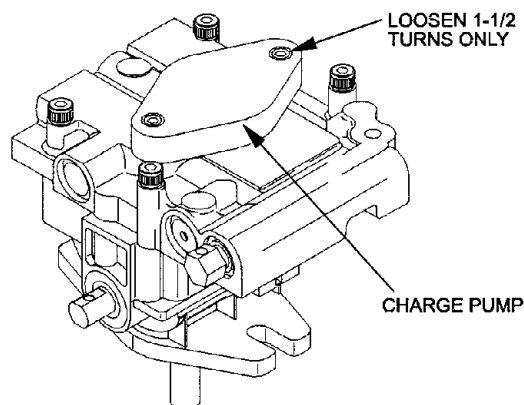

FIG. 10 CHARGE PUMP LOCATION
- f) If either drive wheel does not rotate, one or both of the charge pumps (located on the top of the main pump as shown in Figure 10) may have lost their "prime". Refer to Section 5.1.10.
The critical area for purging air from the hydraulic system is between the oil reservoir and each charge pump located on the top of each variable displacement pump. (See Figure 10).
- d) To "prime" charge pump, loosen two hex socket head capscrews (shown in Figure 10) **1-1/2 turns only. Make sure engine is not running.** Lift charge pump housing upward and wait for a steady flow of oil to flow out from under housing. **Retighten capscrews.** Do this for both pumps. Note: Hydraulic reservoir can be pressurized to up to 5 psi to speed this process.